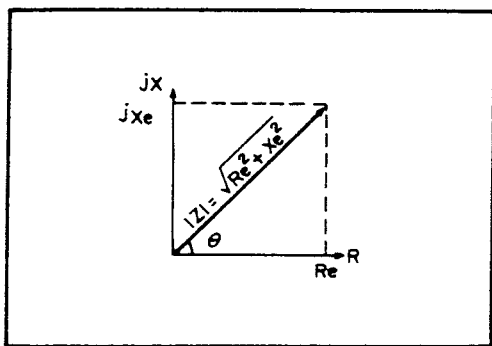

Figure 3-12. Impedance Vector Representation.
3-56. The impedance of a component can be graphically represented in vector form as shown in Figure 3-12. In such representation, the effective resistance and effective reactance correspond to the projections of the impedance vector  $|Z| \angle \theta$ ; that is, the real (R) axis and the imaginary (jX) axis, respectively, as shown below: